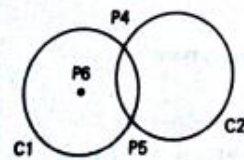

FIGURE A8.17
4. By two intersecting circles. See Figure A8.17.